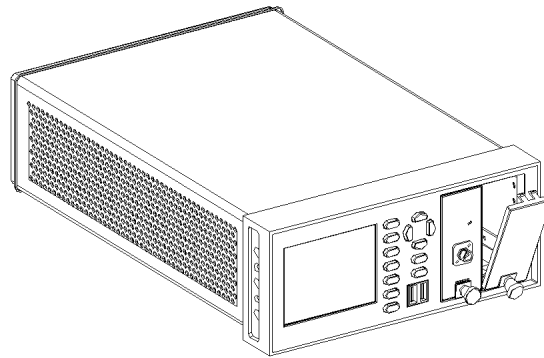

Figure 29 - Fitting a Blind Panel
- 1 Position the blind panel as shown in Figure 29. Position the end closest to the handle against the bottom edge of the slot.